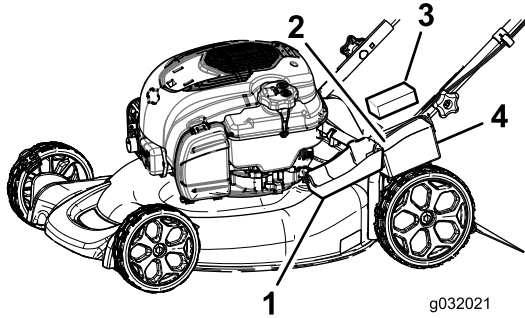

Figure 23
1. Unclip the battery cover and remove it (Figure 23).